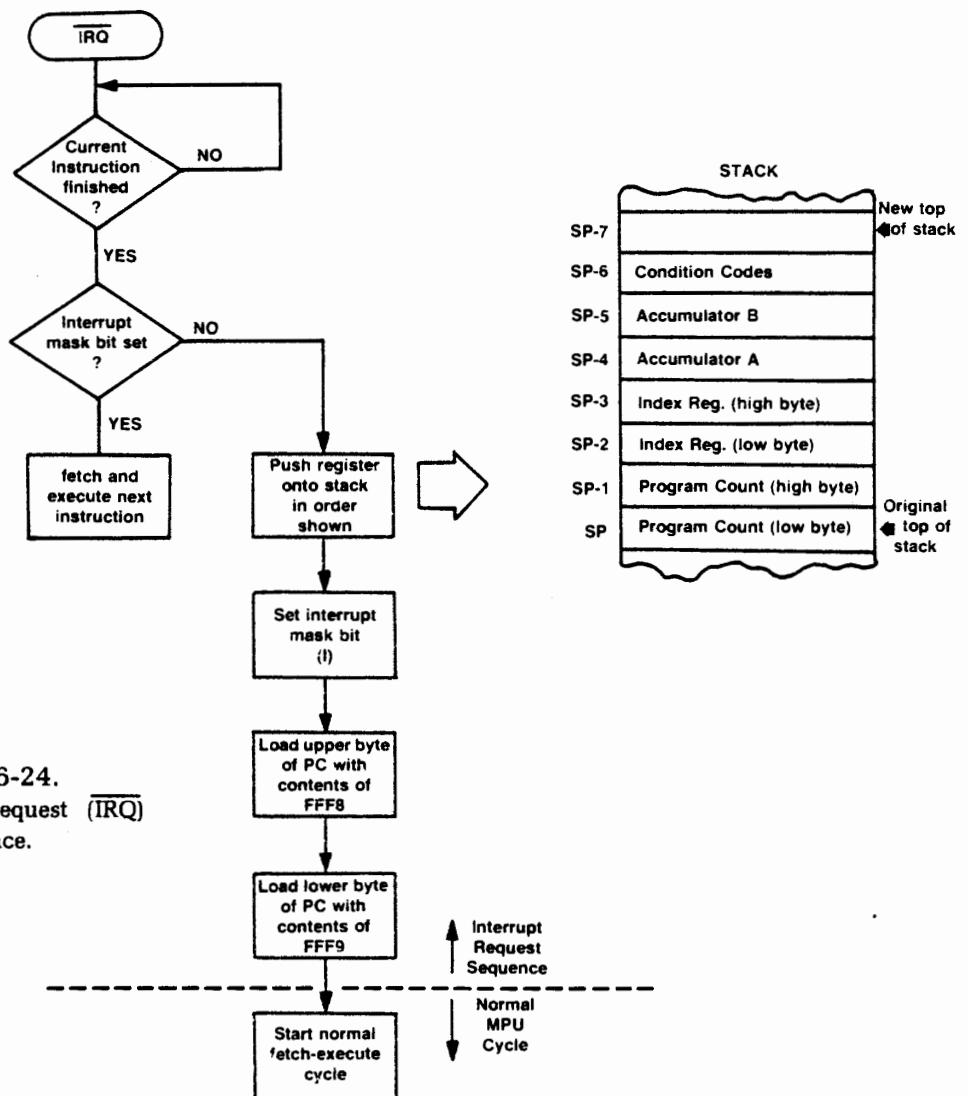

Figure 6-24.
The 6800 MPU has a control line called the interrupt request ( $\overline{\text{IRQ}}$ ) line. When this line is low, an interrupt sequence is requested. However, the MPU may or may not initiate the interrupt sequence depending on the state of the interrupt mask (I) bit in the condition code register. If the I bit is set, the MPU ignores the interrupt request. If the I bit is not set, the MPU initiates the interrupt sequence. This procedure is very similar to the  $\overline{\text{NMI}}$  procedure discussed earlier. Figure 6-24 shows the interrupt procedure.